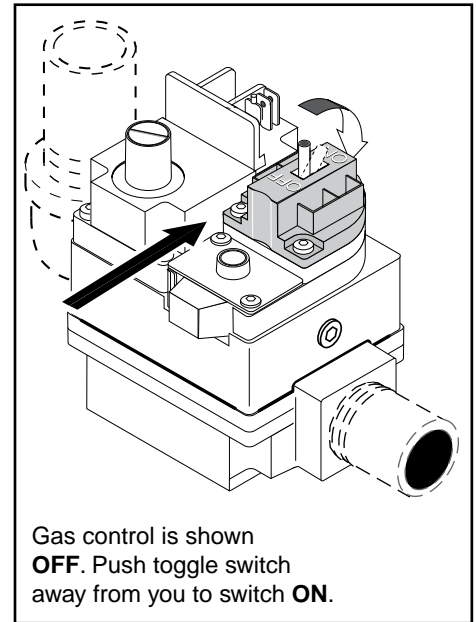

Figure 1.
6. **Toggle-Style Valve:** Pull toggle toward you to turn gas off, see Figure 1.
7. Wait five (5) minutes to clear out any gas. If you then smell gas, **STOP! Follow B in the BEFORE START-UP instructions on page 12. If you don't smell gas, go to the next step.**
4. **Toggle-Style Valve:** Pull toggle toward you to turn gas off, see Figure 1.